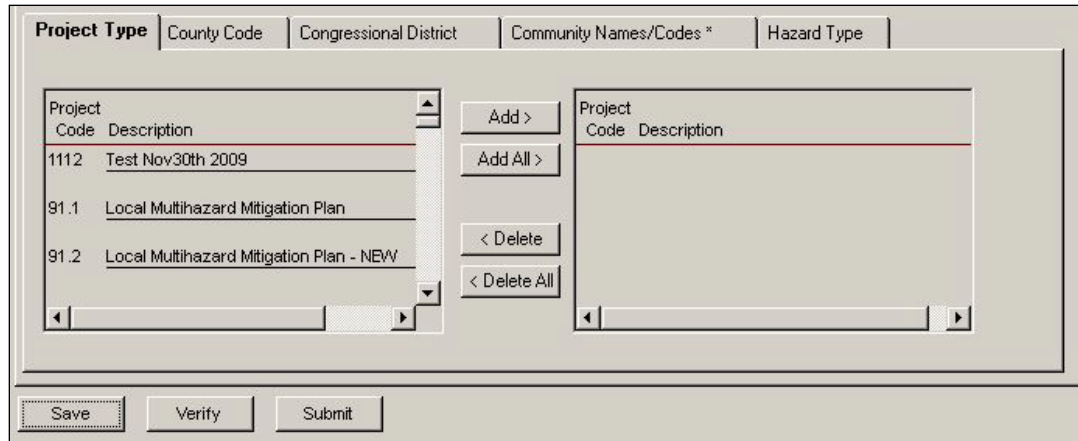

Figure 6-26: Mitigation > Projects > Application Development > Project Info > Project Type Sub-tab
9. The **Project Type** sub-tab is displayed by default (Figure 6-26).